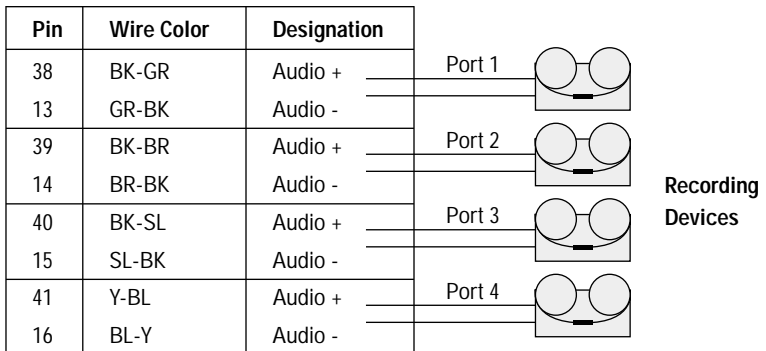

Fig. 14 – Typical recording system connections
5. Cross connect audio output of each port on the MRI-320 to customer supplied recording unit. See Fig. 14.